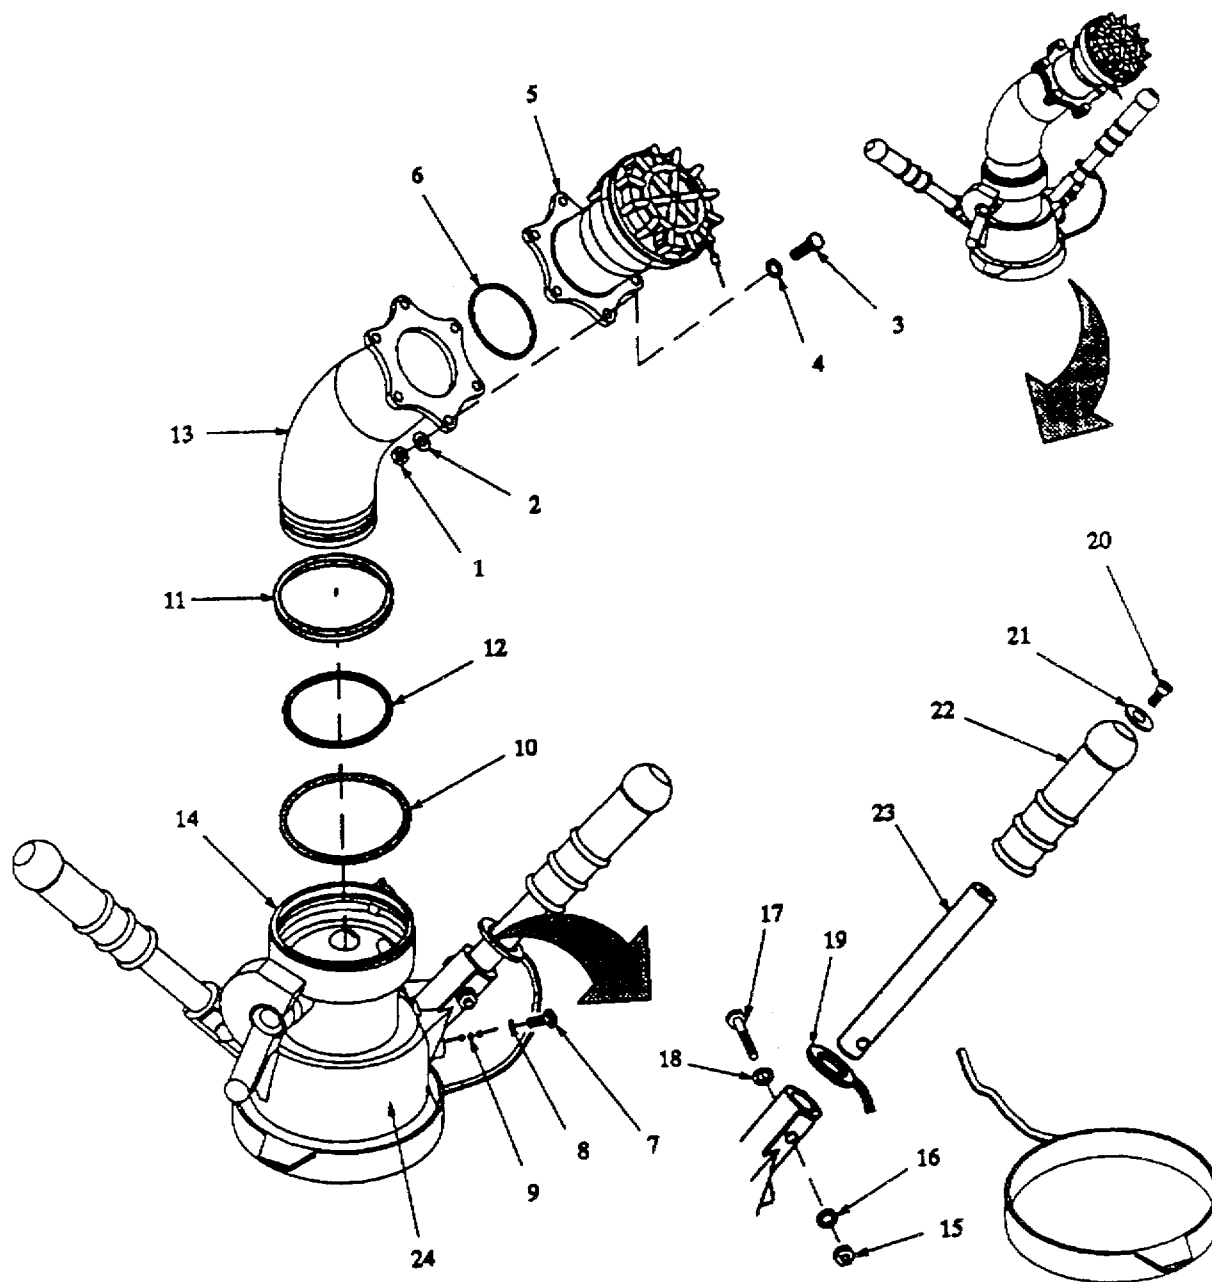

Figure 4-1. Pressure Fuel Servicing Nozzle (D1) Repair.
- a. Disassembly. Refer to figure 4-1.
c. Inspection. Refer to figure 4-1.
- (1) Inspect inlet elbow (13) for cracks and corrosion. Check for scratches and abrasion at all sealing surfaces.
- (2) Inspect body (14) for cracks, corrosion and damaged or missing parts.
- (3) Inspect coupling adapter (5) for cracks, missing components and corrosion.
- (4) Inspect collar (24) for cracks and corrosion.
d. Repair. Replace damaged or defective components. Replace all mandatory replacement parts. Repair non-valved dry break coupling on coupling adapter (para 4-14).**e. Assembly. Refer to figure 4-1.****NOTE**